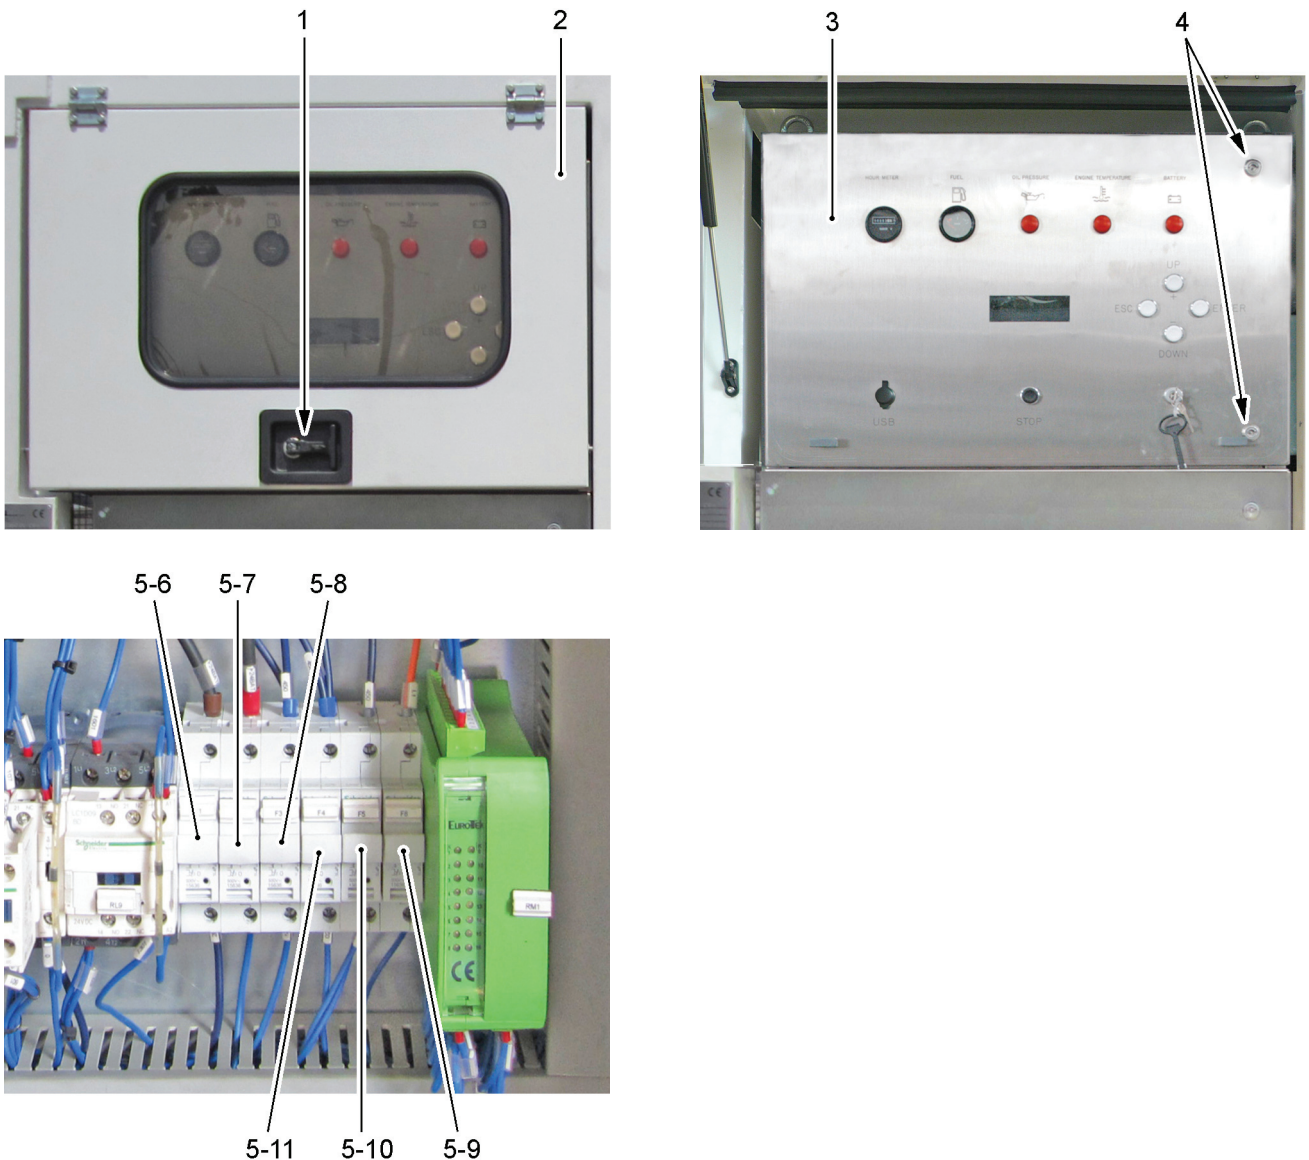

Figure 7.13 - Fuses F1, F2, F3, F4, F5 and F8 replacement
<p>NOTE As the removal/installation procedures of fuses F1 (see Figure 7.13/6), F2 (7), F3 (8), F4 (11), F5 (10) and F8 (9) are identical, here following the removal/installation procedure of fuse F1 (6) is reported.</p>
- 1) By acting on the relevant handle (see Figure 7.13/1), after having removed the locking padlock (if present) open the transparent hatch (2), for protecting the command and control panel, in order to make it possible to accede to the fuses F1 (6), F2 (7), F3 (8), F4 (11), F5 (10) and F8 (9).
- 2) Unlock the lockers (4), fastening the command and control panel (3) to the structure.